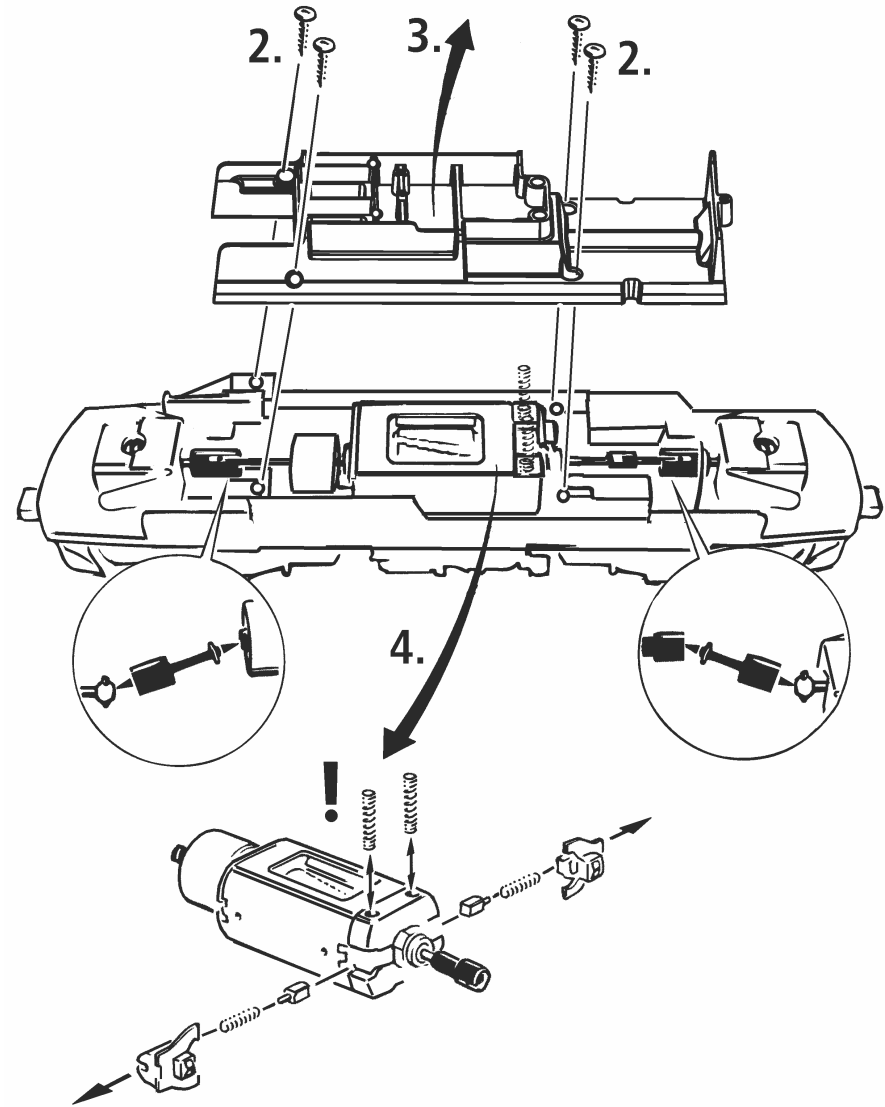

Fig. 6
1. Cleaning of wheel contacts: Wheel contacts easily get dirty on tracks which are not entirely clean. Use a small brush to **remove dirt** from spots marked in fig. 6.